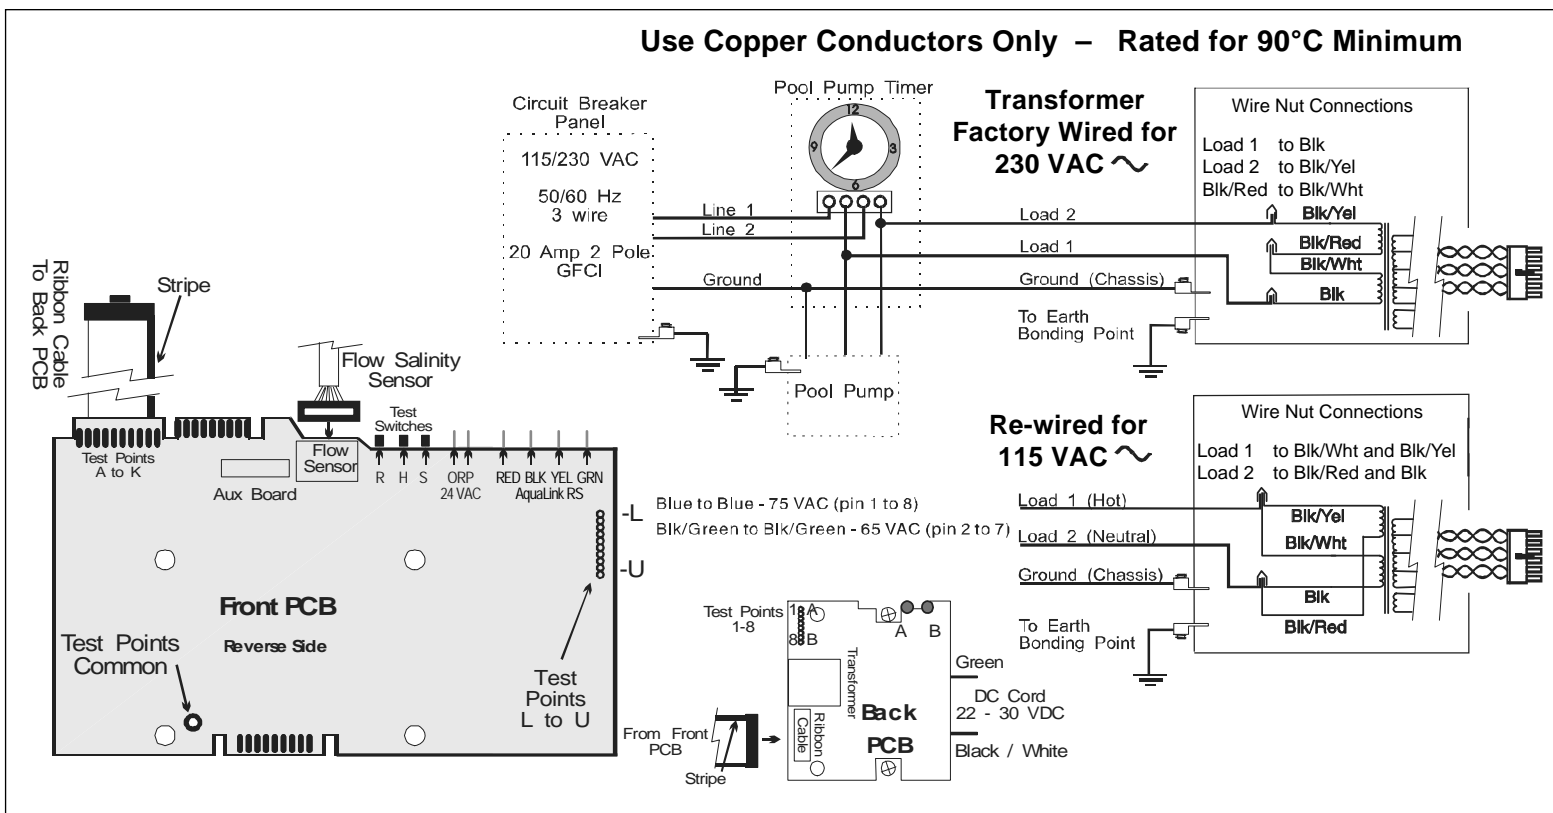

Figure 2. APURE700 and APURE1400
**Factory wired for 230 VAC service.** If available electrical service is 115 VAC, the power supply wiring must be changed to operate on 115 VAC as shown in the wiring diagram below. (Figure 2.)
6. Check source voltage. (All units are factory wired for 230 VAC). ***In order to use on 115 VAC, the internal factory wiring of the control center must be changed. (See wiring diagram page 6 Figure 2).***
7. Use #12/3 insulated wire and conduit. Wire control center transformer to pool pump power source. The control center should be connected to the pump motor switch or automatic timer (Pool Pump Timer) as shown in the diagram on page 6 Figure 2. ***The flow portion of the Flow/Temp/Salinity Sensor is a backup device only.*** Attach the third wire (**Ground**) from the electrical panel to the ground point inside the Control Center. ***Earth bonding in Section 3.4 must also be accomplished to insure personal safety and safety of equipment.***
9. Feed the connector end of the Flow/Temp/Salinity Sensor cable through the DC cord strain relief fitting located in the bottom of the control center chassis backplate. **Be certain the connector is clean and dry,** then plug the cable into the connector on the control center Printed Circuit Board as shown on page 6 Figure 2. **(Do not pull Flow/Temp/Salinity Sensor cable too tight, allow a little slack).**
11. Connect the DC cord to the Control Center. Feed the DC cord through the same strain relief fitting as the Flow/Temp/Salinity Sensor. Plug the DC cord into the two push-on connectors located on the control center Printed Circuit Board as shown in Figure 2 on page 6.
14. Plug the ribbon cable attached to the front cover PC board into Printed Circuit Board mounted on the backplate (See page 6 Figure 2). Now reattach the control center front cover to the backplate.